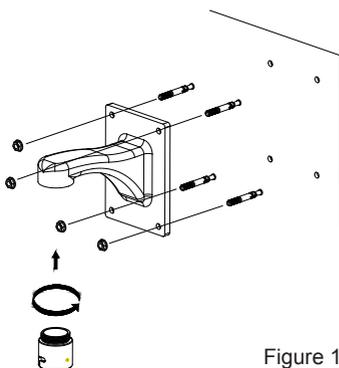

Figure 1
- When using in an outdoor environment, the safety cable must be secured to the main unit and the pendant mount bracket. Please select from one of the four screw holes (figure 1) on the nearby support frame to secure the safety cable. This will prevent the unit from falling and cause personal injuries.
- (1) Attach the mounting holes guide onto the wall.
- (2) Drill 4 holes on the wall matching the mount holes on the plate. Diameter  $\phi 3/8"$  (9.5mm), depth  $1/1/2"$  (40mm) (Figure 1).
- (3) Hammer 4 screw mounts into the holes.